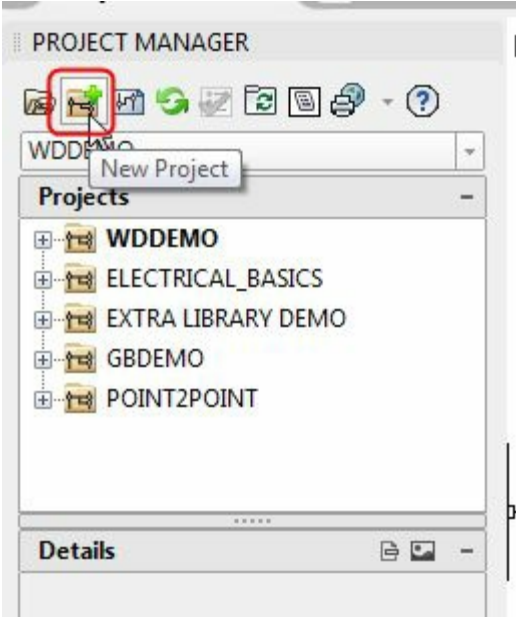

Figure-2. New Project button
- Click on the **New Project** button from the **Project Manager**; refer to Figure-2.